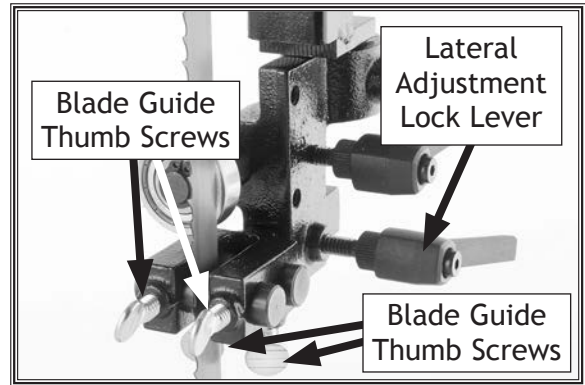

Figure 28. Blade guide controls.
3. Familiarize yourself with the blade guide controls shown in Figure 28.